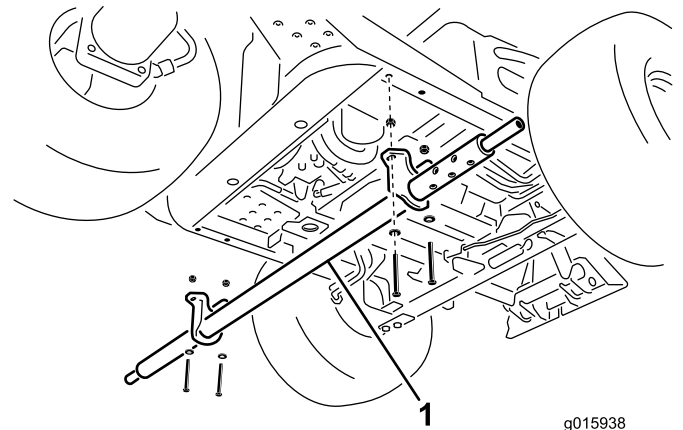

Figure 4
2. Secure the cross tube mounting brackets to the frame tubes with 4 screws (3/8 x 3 inch), flat washers, and locknuts (3/8 inch) (Figure 4).
1. From the left side of the machine, slide the cross tube assembly under the machine, aligning the mounting bracket holes with the holes in each frame tube (Figure 4).